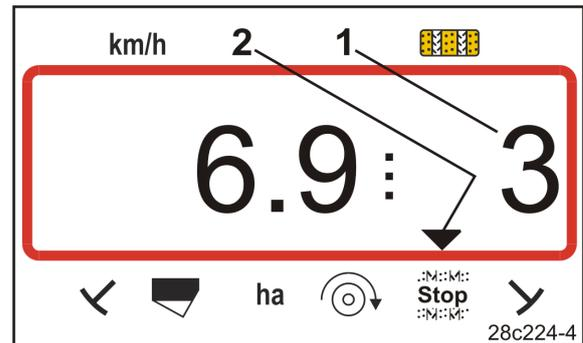

Fig. 33
- The number (Fig. 33/1) of the tramline counter flashes on the display.
- The control symbol (Fig. 33/2) marks the stop symbol.